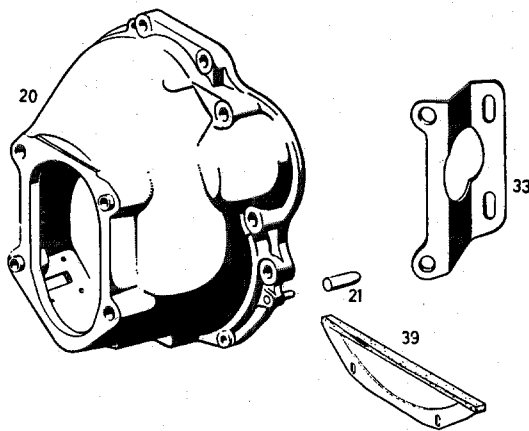

Fig. 26 — 1/5
Detach the swivel support (10) from the spring plate by removing the two hexagon screws (Fig. 26 — 1/4).
8. Detach the exhaust suspension at the mounting plate (33) and the cover plate (39) for the clutch housing (20) (Fig. 26 — 1/5).